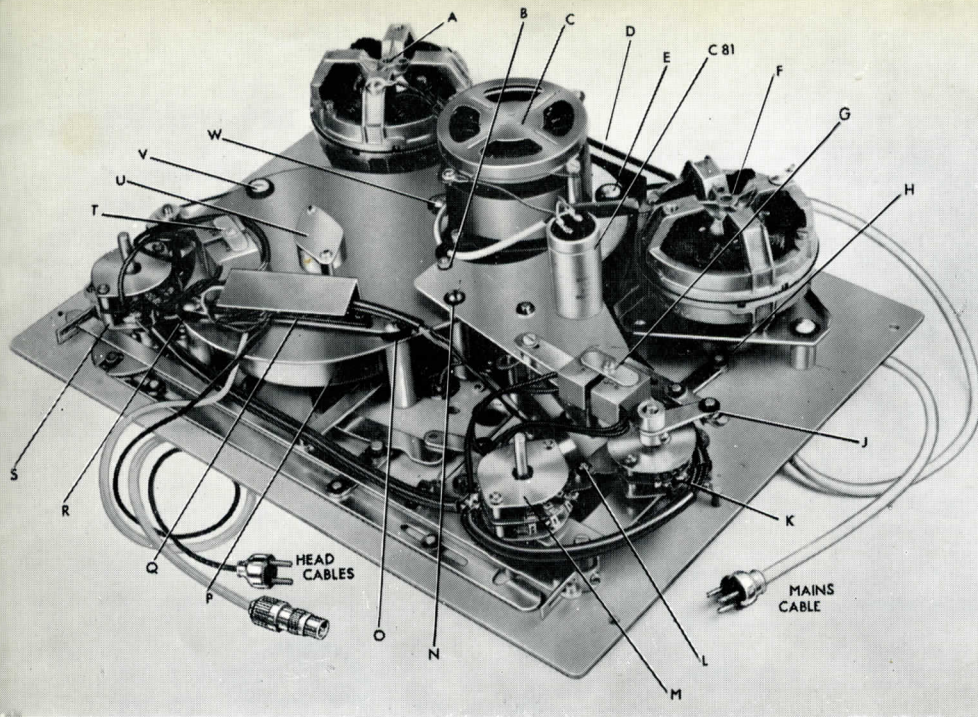

Fig. 5 ▲
To extract main drive motor plate and speed-change mechanism (Y), loosen screws G and T, and remove screws E, O, R, V and W, circlips J and L, and suppressor units G and T. See Fig. 5.